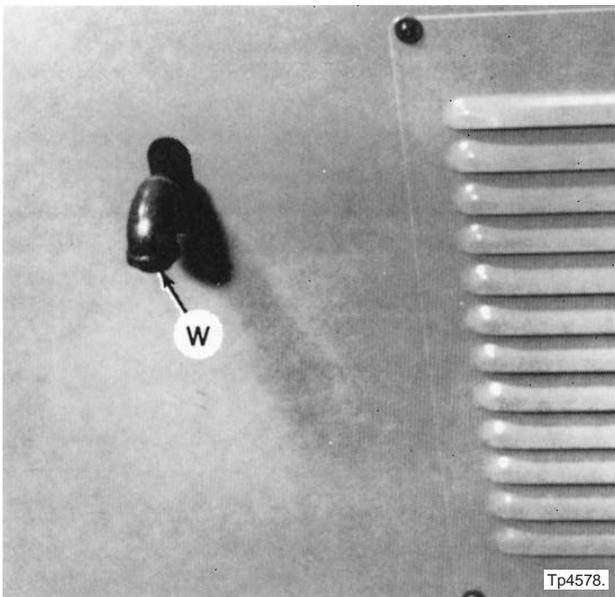
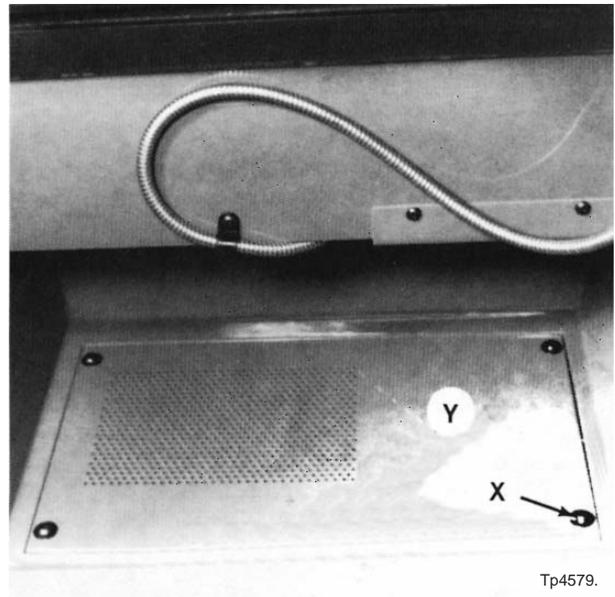

Figure 6.33 - Coolant Drain Plug
Figure 6.34 - Coolant Sump Cover
2. At the back of the machine, place a drain pan capable of holding at least 3 gallons of liquid under drain plug "W", Figure 6.33 .
4. Remove four screws "X", Figure 6.34, and remove sump cover "Y".
7. Replace sump cover "Y" and screws "X", Figure 6.34, and drain plug "W", Figure 6.33 .